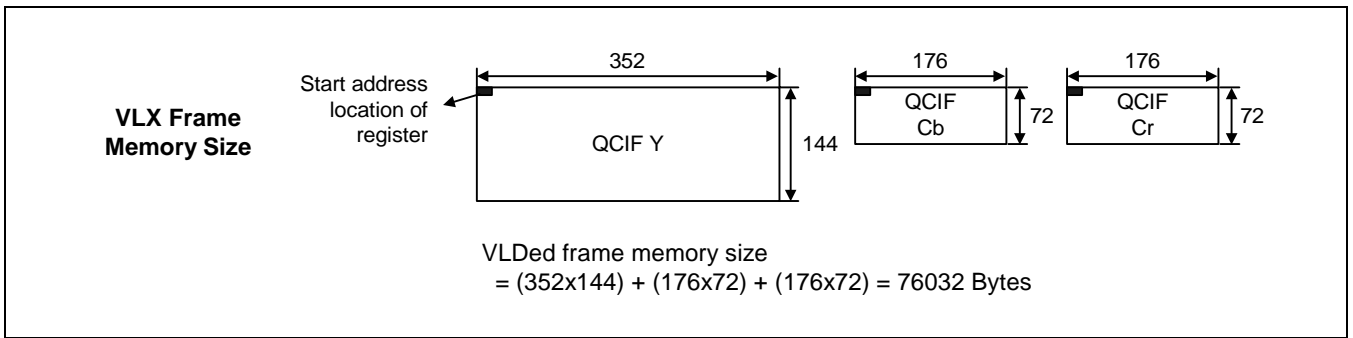

Figure 26-7. External Memory Amount in VLD Mode.
Decoded coefficient data saved external memory Y image, Cb image, and Cr image. Figure 26-7 is example external memory amount. So special function register Y\_START\_ADDR, CB\_START\_ADDR, CR\_START\_ADDR must be set.
- VLD output is saved image format in external memory. Figure 26-7, 26-8 show the external memory